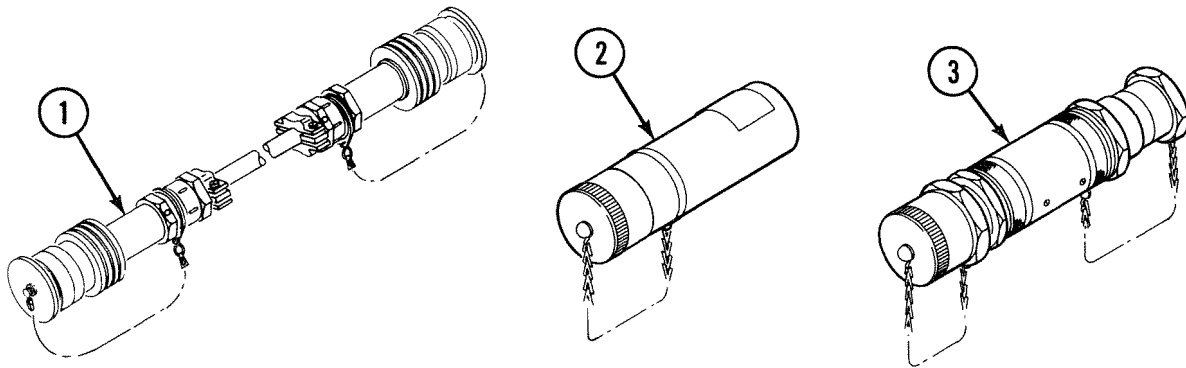

Figure 2-48. Rear Area Cable Set Major Features
b. *Rear Area Cable Set.* The rear area cable set connects rear area equipment and is used to perform tests on assemblies. It is stored on the RAPU. Figure 2-48 shows rear area cable set major features.